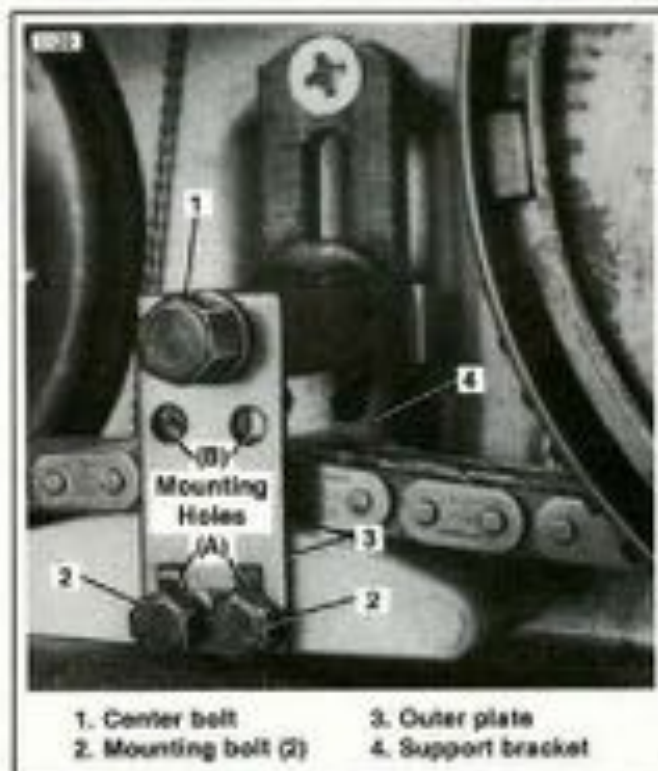

Figure 6-2. Replacing the Adjusting Shoe
### Replacing the Adjusting Shoe (Figure 6-2)
1. See Figure 6-2. Remove the center bolt (1) and two bottom bolts (2). Remove the shoe and replace it.